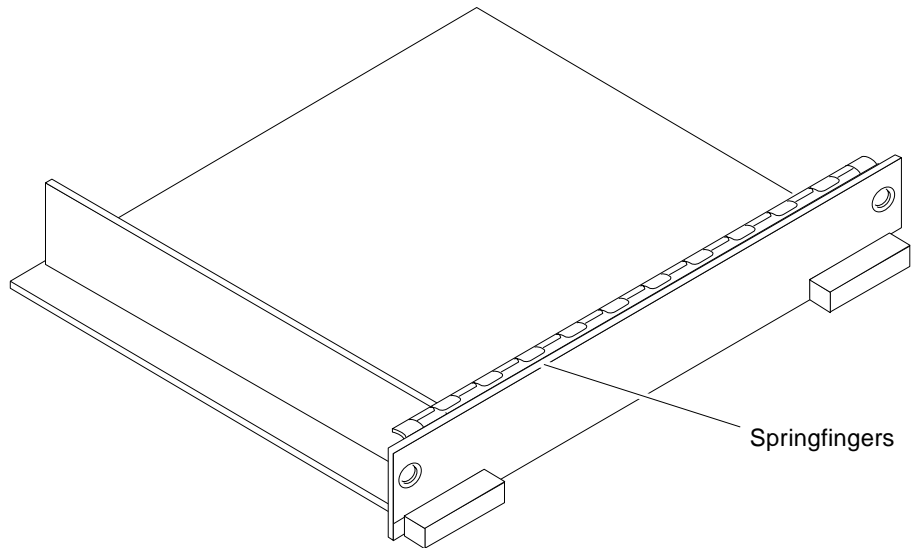

FIGURE 4-1 Filler Panel (Enterprise 5500/4500 Only)
- Empty slots in Enterprise 5500 and 4500 systems must have a filler panel installed (FIGURE 4-1).